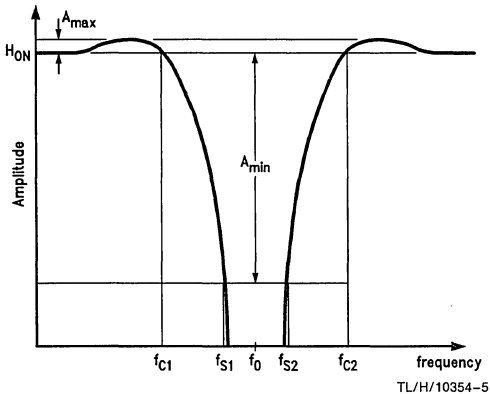

FIGURE 1. General Form of Notch Response
A_{max}: the maximum amount of gain variation within the filter's passband (See *Figure 1*). For the LMF90, A_{Max} is nominally equal to 0.25 dB.
A_{min}: the minimum attenuation within the notch's stopband. (See *Figure 1*). This parameter is adjusted by programming voltage applied to pin 10 (D).
Passband: for a notch filter, frequencies above the upper cutoff frequency (f_{C2} in *Figure 1*) and below the lower cutoff frequency (f_{C1} in *Figure 1*).
Stopband: for a notch filter, the range of frequencies for which the attenuation is at least A_{min} (f_{S1} to f_{S2}) in Figure 1).